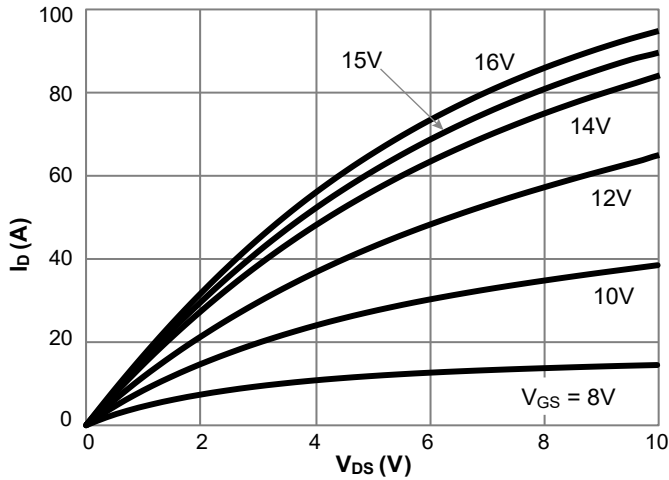

Figure 1. On-Region Characteristics $T_J = 25^\circ\text{C}$
H. The static characteristics in Figures 1 to 8 are obtained using <300ms pulses, duty cycle 0.5% max.